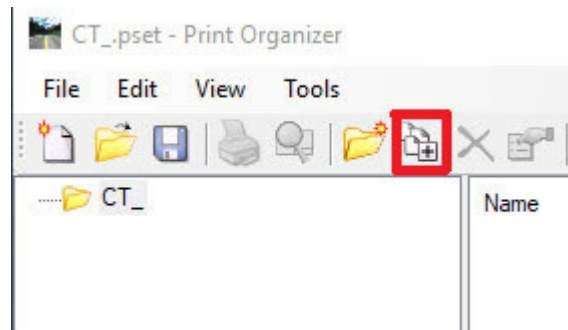

Figure 21 "Print Organizer Dialog ADD FILES"
- Step 3. Select **ADD FILES TO SET** (figure 21 below)